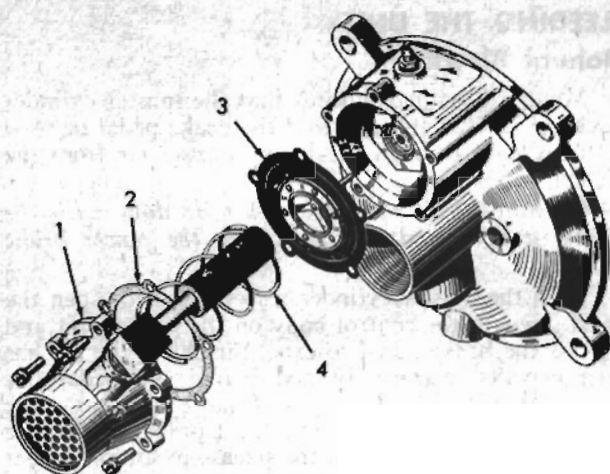

FIG. 42
screws. Install the gasket (2, Fig. 42), diaphragm (3), diaphragm spring (4), and control valve cover (1) on the guide pins, aligning the marks made at disassembly. Move the assembly into position, allowing the cylinder tube to slide into the connecting hose. When assembling the diaphragm, spring, and control valve body, extreme care should be taken not to distort the diaphragm when compressing the spring. Remove the guide pins one at a time and install the screws and lock washers. Install the hose clamps.